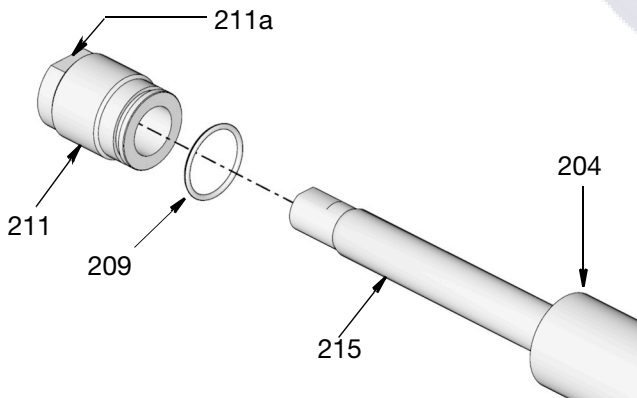

FIG. 30
- Use wrench on flats of priming rod (215). Remove hex nut (219).
- Unscrew shovel (216) and remove it from priming rod (215).
17. Use a wrench on the flats (211a) of seal retainer (211) and a strap wrench working in the opposite direction, on pump cylinder (204), to loosen and remove adapter and o-ring (209) from pump cylinder (204) (FIG. 30). Discard o-ring. Use the new o-ring included in the kit for reassembly.